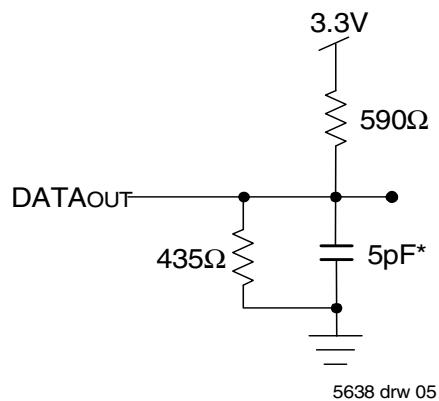

Figure 2. Output Test Load
1. Transition is measured 0mV from Low or High-impedance voltage with the Output Test Load (Figure 2). This parameter is guaranteed by device characterization, but is not production tested.
3. All input signals are synchronous with respect to the clock except for the asynchronous Output Enable (OE), $\overline{FT}/PIPE_R$, and $\overline{FT}/PIPE_L$.
1. Transition is measured 0mV from Low or High-impedance voltage with the Output Test Load (Figure 2).
3. Transition is measured 0mV from Low or High-impedance voltage with the Output Test Load (Figure 2).